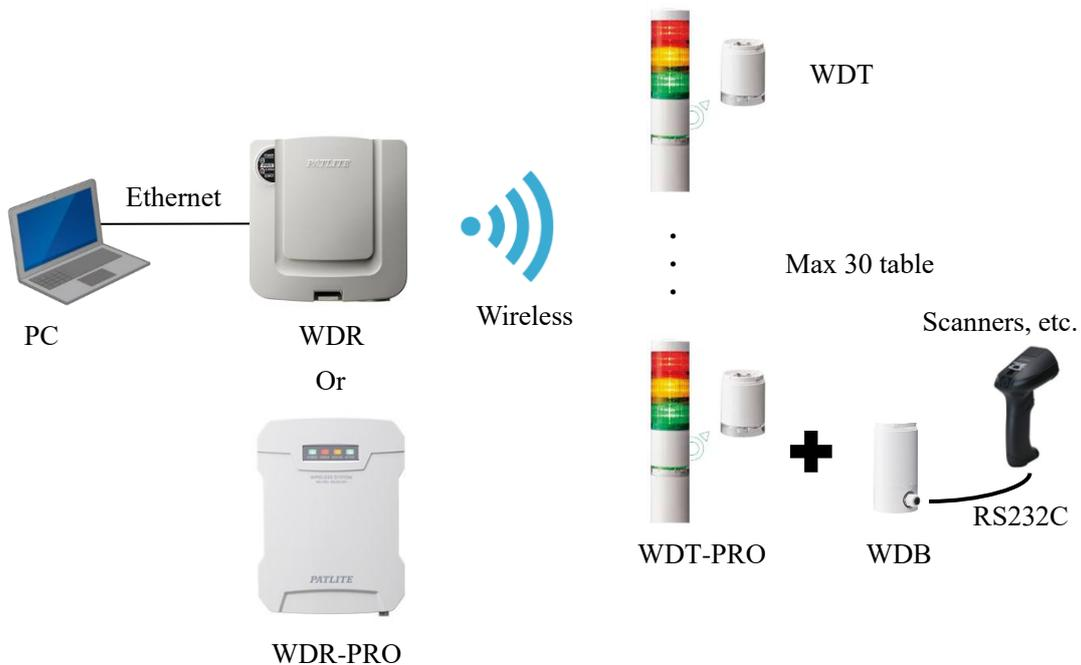

Fig. 1-1 Diagram: Configuration of WDR-PRO provider
This manual is a user's guide for WDR-PRO provider that acquire and control signaling information from PATLITE's WDR-L (E)-Z2 (hereinafter referred to as WDR), WDR-L (E)-Z2-PRO, WDR-L (E)-Z2-PRO-L (hereinafter referred to as WDR-PRO). The WDR (-PRO) is a receiver that can receive multiple signaling information wirelessly. Fig. 1-1 shows the configuration of WDR-PRO provider. Connect Ethernet cable between the PC and WDR (-PRO) and communicate wirelessly between the WDR (-PRO) and the signal light. Up to 30 signal light information can be acquired with a single WDR (-PRO). The signaling lights must be fitted with WDT-6LR-Z2, WDT-5LR-Z2, WDT-6M-Z2, WDT-5M-Z2 (WDTs) and WDT-6LR-Z2-PRO (hereafter WDT-PRO), which are data transmitters. By attaching the base unit WDB-D80S-PRO (WDB) to WDT-PRO, you can connect to the scanner, etc. via RS232C cable. The scanner can transmit scanned data, etc.